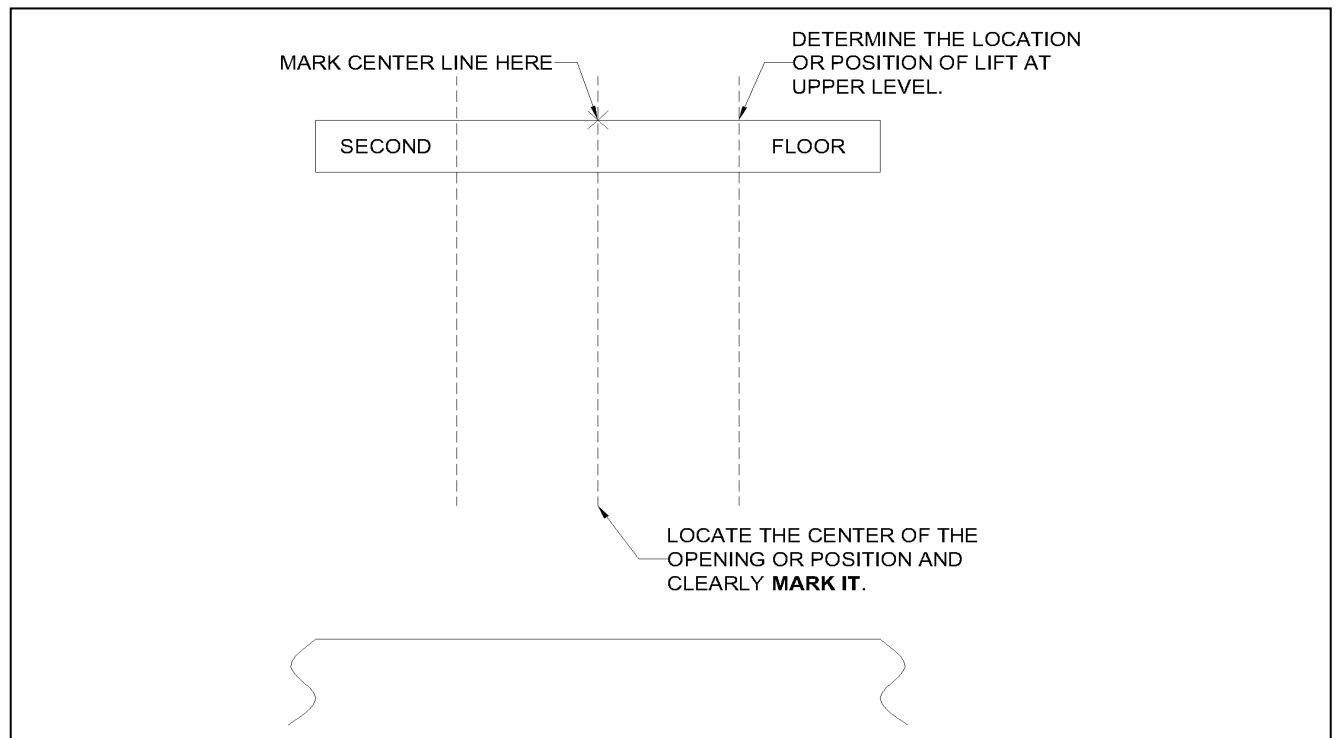

Figure 11 Marking the 2nd Floor for Carriage Position (Front View)
- a. **Figure 11** - Layout the position of the lift at the second level landing/opening, marking the center of the carriage first – then both outside edges of the carriage.